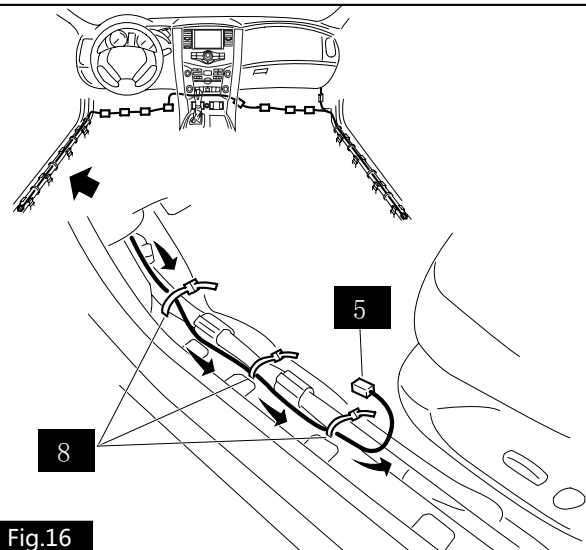

Fig.16
- (12) Route the long Harness **5** along the vehicle harness, and attach the long Harness **5** to vehicle's harness using the Tie Wrap **8**. Shown in Fig. 16. (3 pieces)